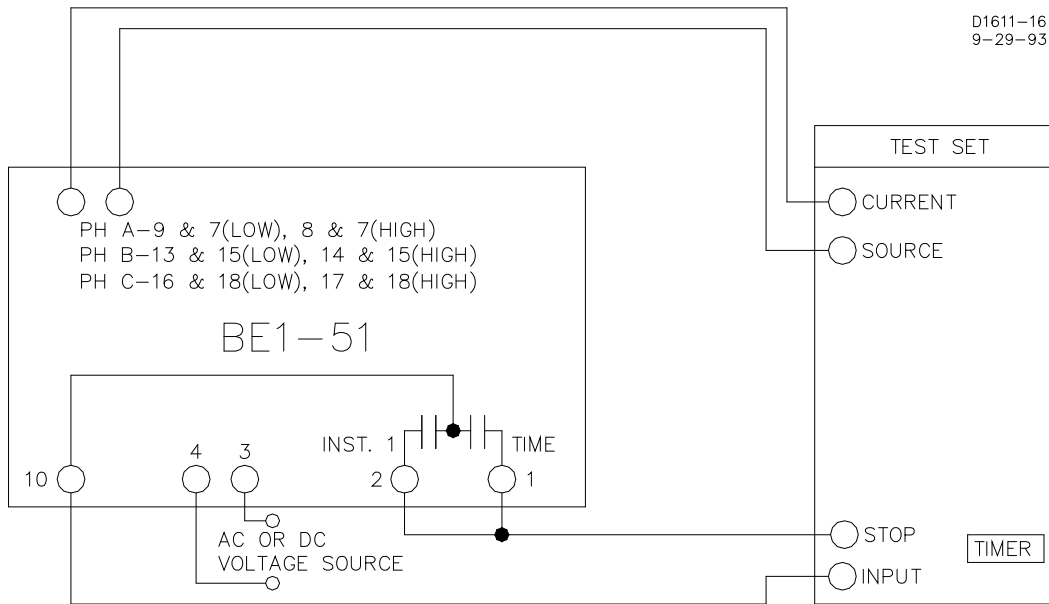

Figure 5-2. Test Setup for Sensing Input Type G (Three-Phase Sensing)
- (b) *Sensing Input Type G (Three-Phase Sensing)*. Refer to Figure 5-2.
- (c) Sensing Input Type G (Three-Phase Sensing). Remove the power and reconnect the input sensing to each of the remaining phases as shown in Figure 5-2, each time repeating Steps 1 through 10.